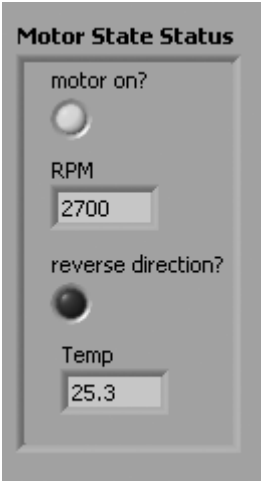

Figure 13.64
Now let's say that after some time of your program running fine, you add a temperature sensor to the motor. You now want to monitor temperature in various places in your program, so you will need to add temperature to your Motor State cluster. Your Motor State cluster now needs to look like the one shown in Figure 13.64.
1. In a new blank VI, create a cluster like the one shown earlier in Figure 13.64.